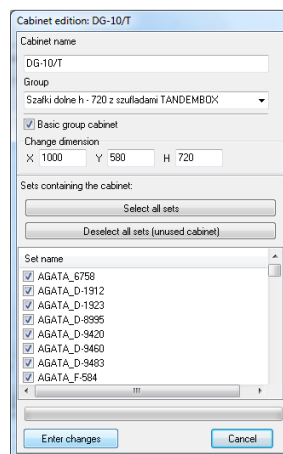

Fig. 171 – edition of a single cabinet
- assigning the cabinet to selected sets (Fig. 171).